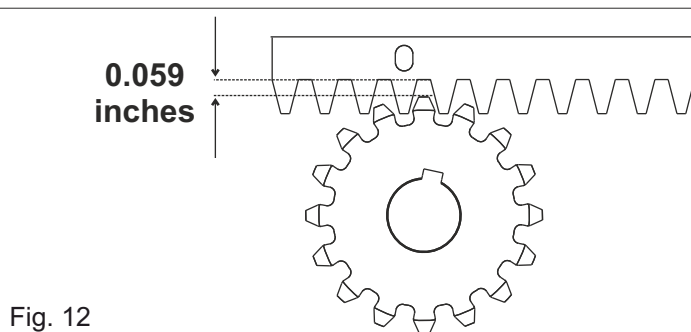

Fig. 12
5.6. To avoid that the gate weights down the pinion (Fig. 12) lift up the whole rack about **0.059 inches**